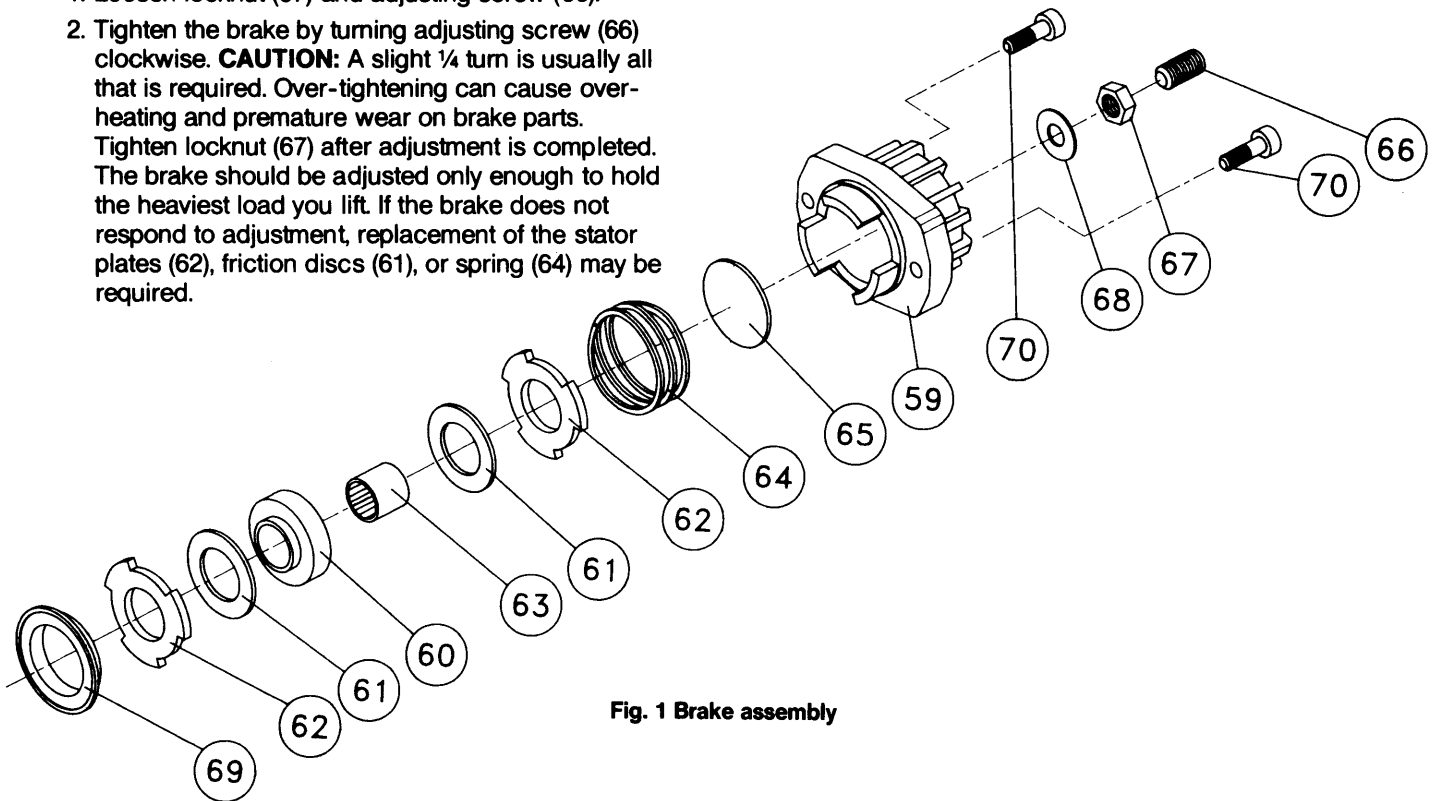

Fig. 1 Brake assembly
- thrust washer (65)
- spring (64)
- stator plate (62)
- friction disc (61)
- cam clutch (63) brake hub (60) assembly
- brake spacer (69)
- gasket (39) See XVII.Reference fig. 1 brake assembly diagram for assistance.
2. Place complete brake assembly on gearbox housing (4) and secure with two capscrews (70).
3. Install pipe plug (34) into bottom of gearbox housing and add three pints of SAE 140 gearbox lubricant.
4. Tighten brake adjustment screw (66) until tension from spring (64) is felt. Refer to section VIII. "Adjusting the oil cooled brake" and set brake to hold required load. Do not set brake for loads greater than winch rating.